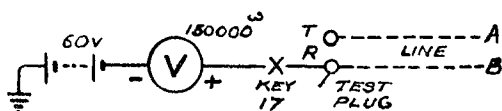

Fig. 15.—TEST FOR EARTH OR LOW INSULATION ON B-WIRE.
**Insulation Tests.** In testing for insulation resistance of A- or B-wires the distant end of the line should be disconnected. If the A-wire of the pair under test is required to be connected to earth, throw "Earthing" key (No. 8) (see Figs. 15 and 16).